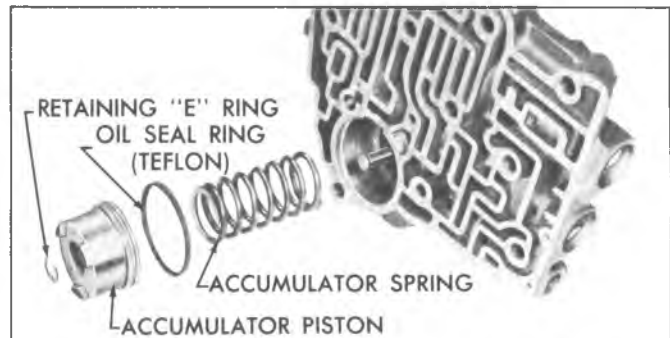

Fig. 54T--Front Accumulator Assembly - Exploded View
4. Remove front accumulator piston and spring (fig. 54T).
NOTE: See figure 54T. Do not remove the teflon oil seal ring from the front accumulator piston unless the oil seal ring requires replacement. For service, the oil seal ring is cast iron.